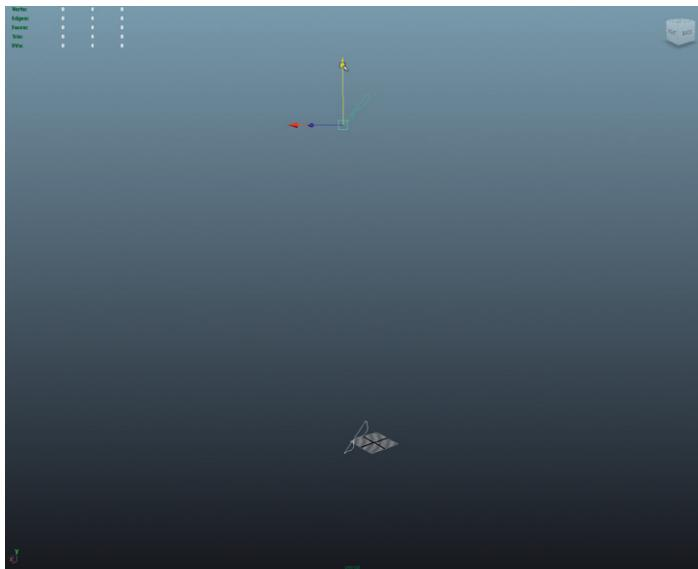

FIG 3.80 Duplicated and moved curve.
Step 17: Duplicate (Ctrl-d) curve #1 and move the new curve #2 straight up in Y (Fig. 3.80).